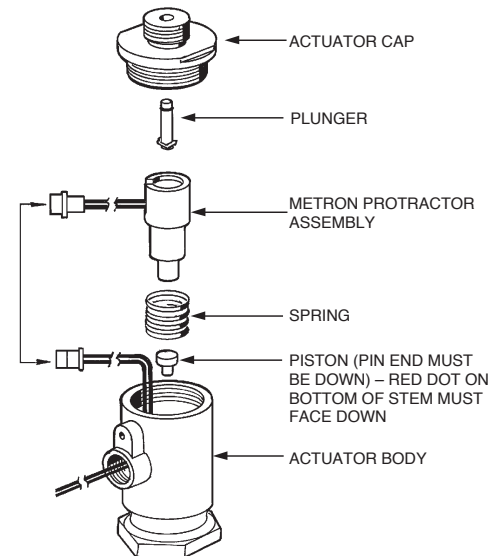

FIGURE 8-8
- Unscrew actuator cap. See Figure 8-8.
- Lift actuated METRON PROTRACTOR assembly housing out of actuator body and disconnect wire plug. See Figure 8-8.
9. Plug wire connector together. See Figure 8-8.